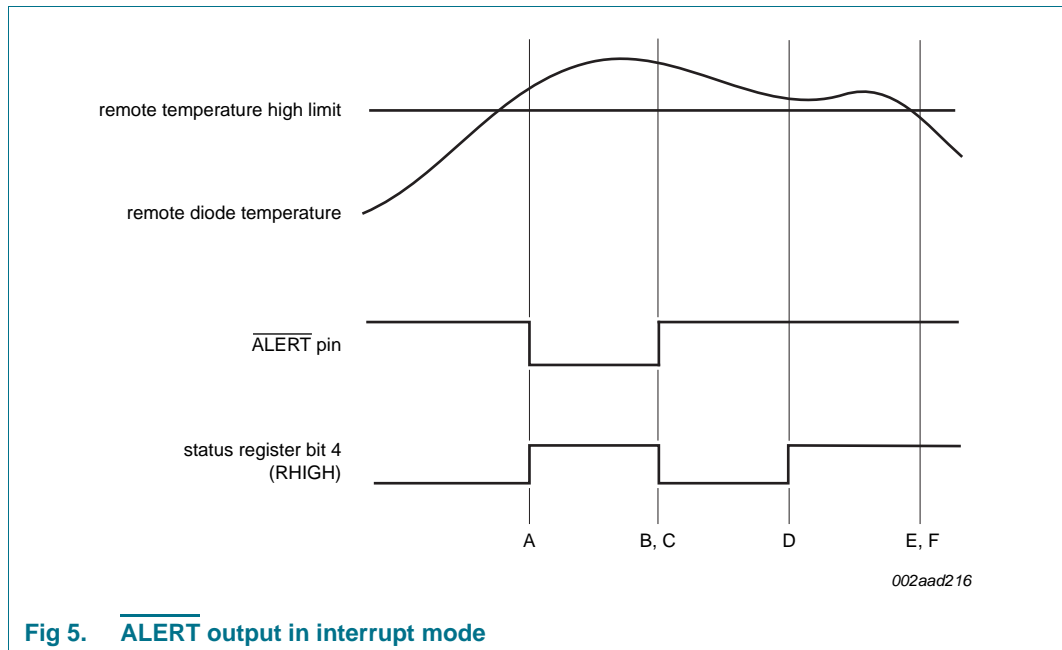

Fig 5. **ALERT** output in interrupt mode
In the interrupt mode, the $\overline{\text{ALERT}}$ output is used to provide an interrupt signal that remains asserted until the interrupt service routine has elapsed. In the interrupt operating mode, a read of the Status register will set the $\overline{\text{ALERT}}$ mask bit 7 of the Configuration register if any of the temperature alarm bits of the Status register is set, with exception of BUSY (D7) and OPEN (D2). This protocol prevents further $\overline{\text{ALERT}}$ output triggering until the master device has reset the $\overline{\text{ALERT}}$ mask bit at the end of the interrupt service routine. The Status register bits are cleared only upon a read of the Status register by the serial bus master (see Figure 5). In order for the $\overline{\text{ALERT}}$ output to be used as an interrupt, the ALERT Configure bit D0 of the ALERT Mode (AM) register must be set LOW (POR default).